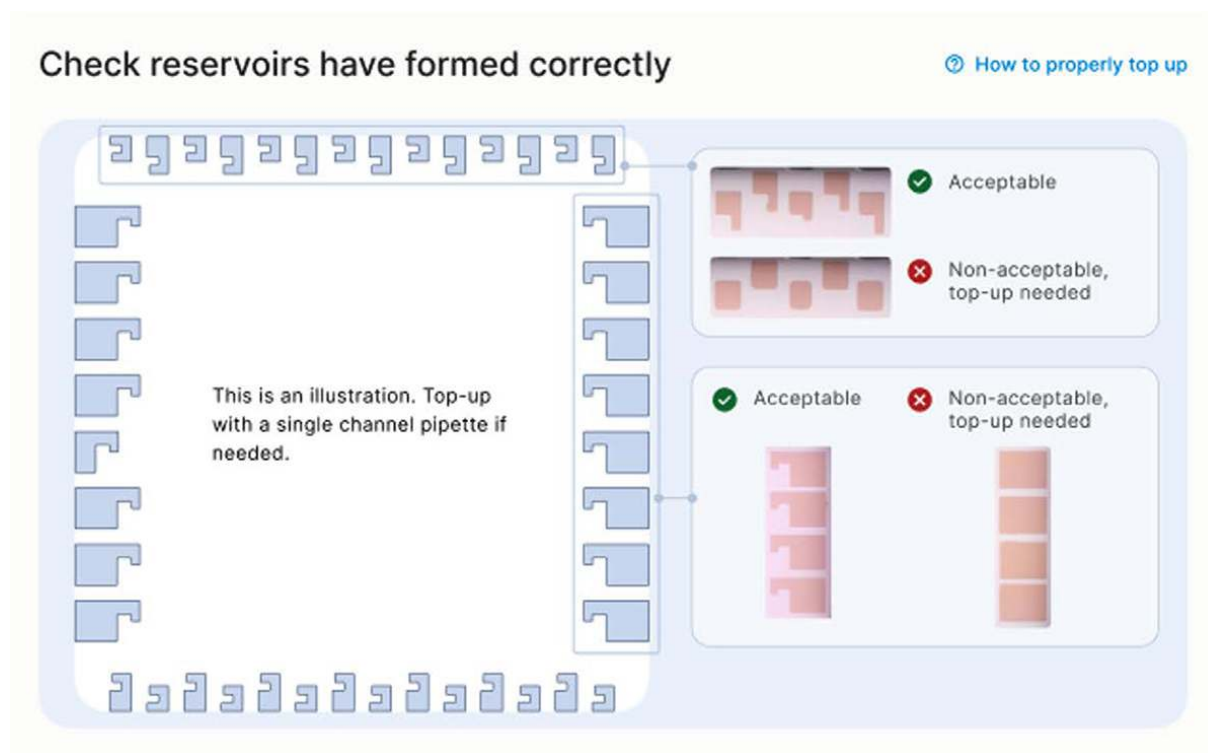

Figure 26: Check the reservoirs have formed correctly on the cartridge
3. Inspect the reservoirs have formed correctly in the cartridge as shown on the screen. If so, Press the [Next] button (Figure 26).
Note: Any presence of a marker on the reservoir is acceptable, as shown on the top right of Figure 26